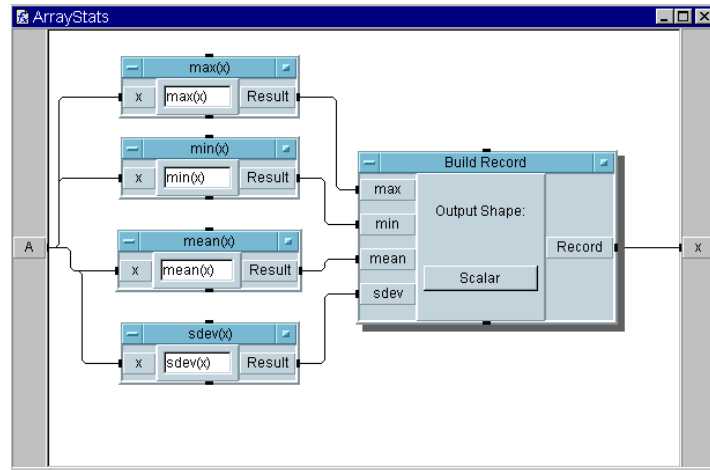

Figure 7-4. Editing the UserFunction ArrayStats
- f. Connect the Build Record output to the x output terminal on the User Function editing window. The program should look like Figure 7-4. Then click the iconize button on the window.